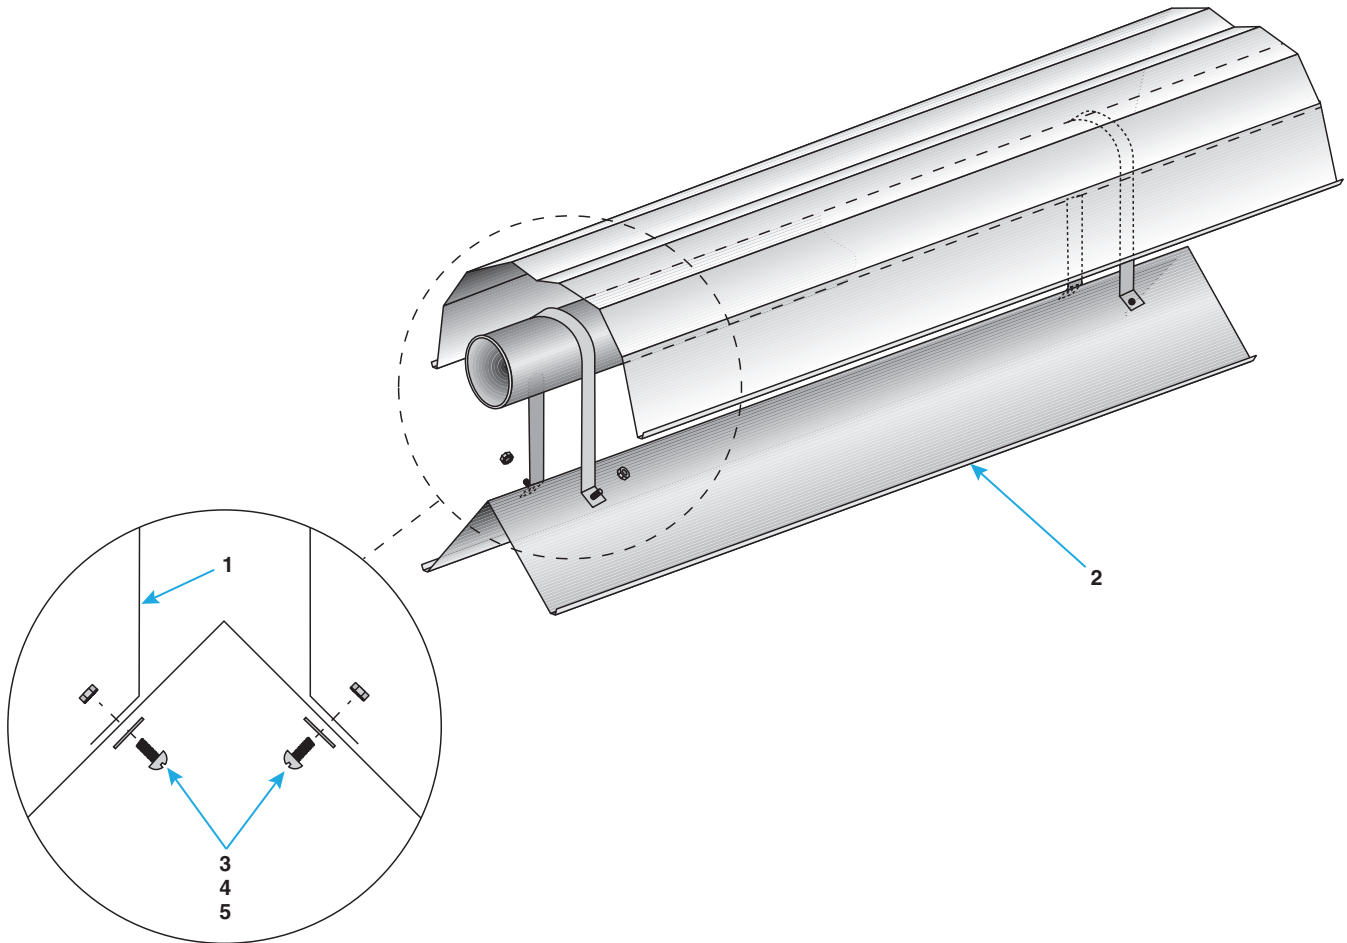

Figure 2. Protective Shield Kit Installation (Refer to Table 2)
1. Loop support straps (1) around burner tube as shown in Figure 2.
2. Align support strap (1) holes with holes in protective shield (2) and secure straps to shield using screws (3), flat washers (4), and locknuts (5) as shown in Figure 2.